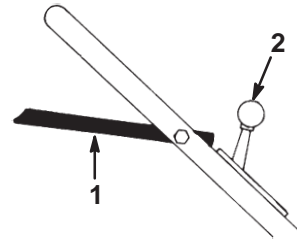

Figure 6
The blade control bail and the throttle control are on the upper handle as shown in Figure 6.
3. Move the throttle control to the  (Choke) position (Fig. 6).